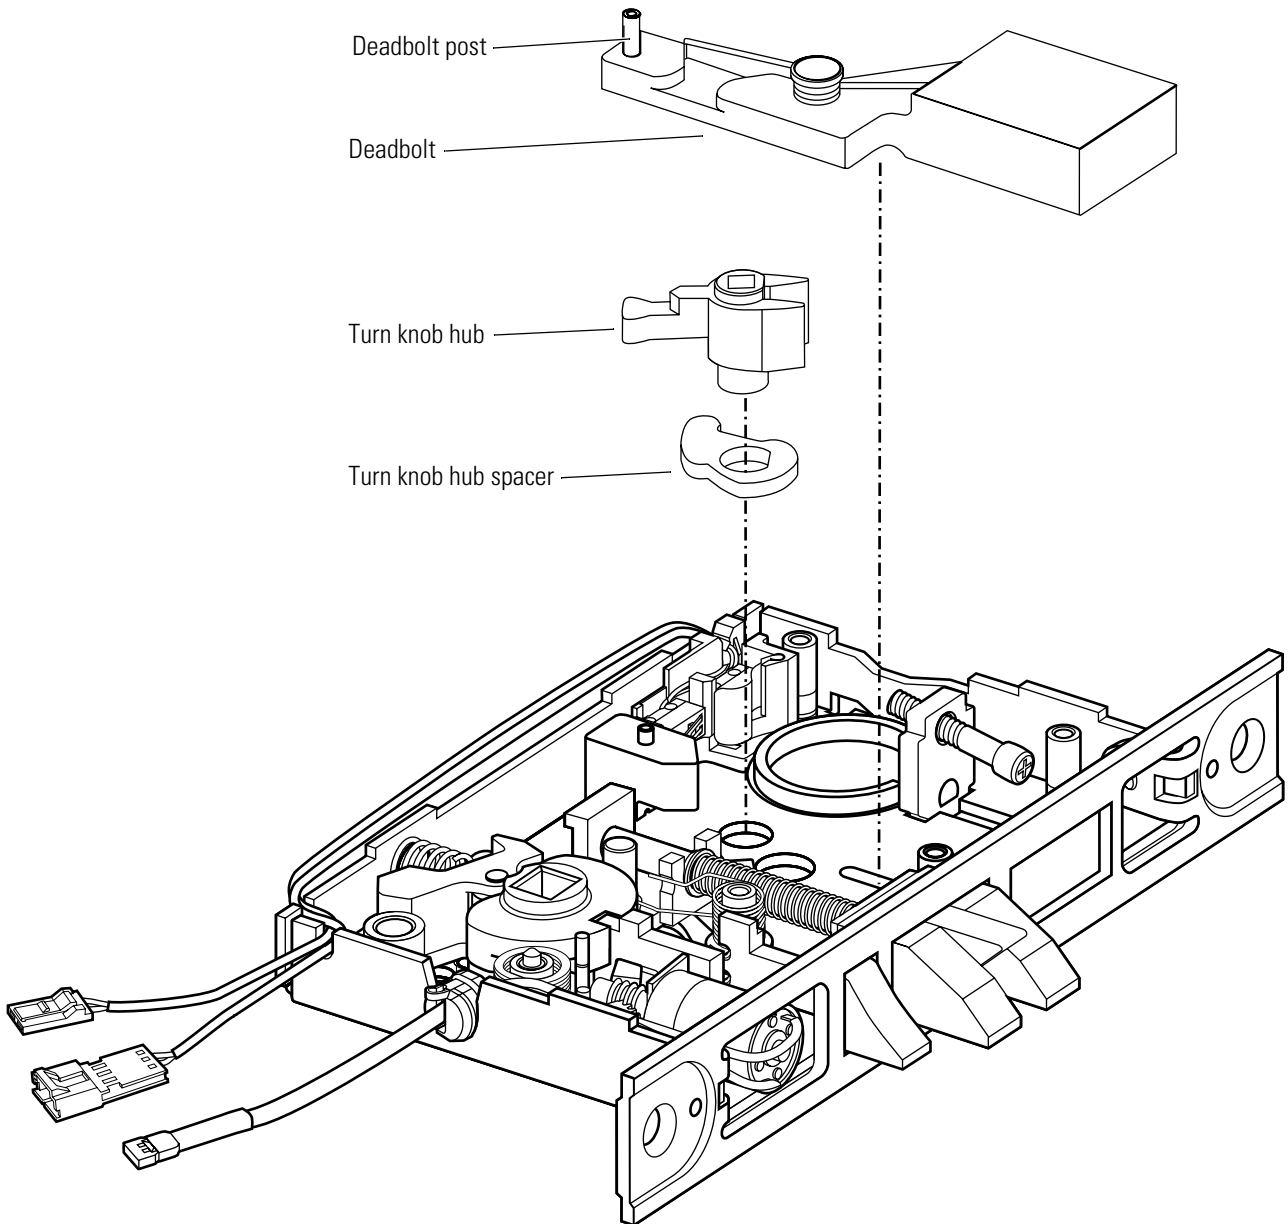

Figure 6.11 Removing the deadbolt, turn knob hub, and spacer (FV function, LH case shown)
3. Pull the deadbolt spring away from the turn knob hub and remove the turn knob hub from the case. See Figure 6.11.